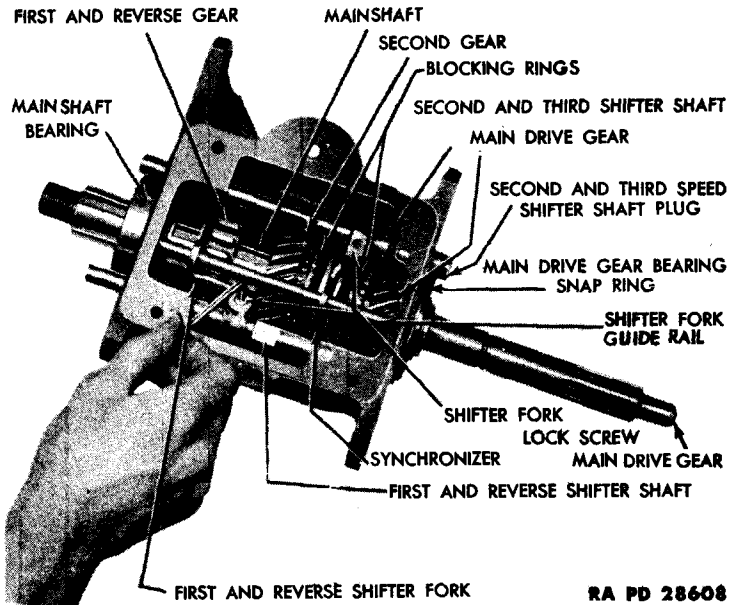
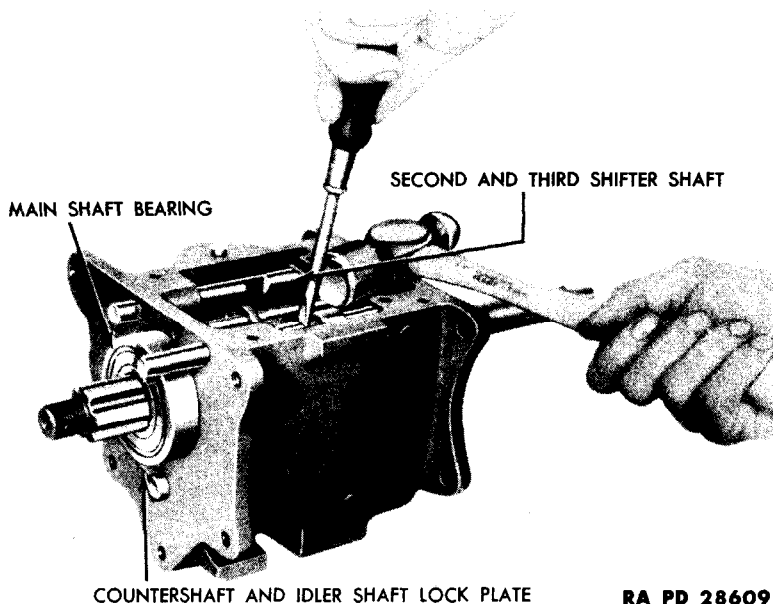

Figure 8 – Removing Shifter Fork Lock Screws
Figure 9 — Removing Shifter Shafts
c. **Remove Shifter Fork Guide Rail** (fig. 8). Push the shifter fork guide rail out of the transmission.
d. **Remove the Low and Reverse, and the Second and High Shifter Forks.** Remove the shifter fork lock screw from each fork (fig. 8). Tap the shifter shafts part way out of the transmission (fig. 9), being careful not to lose the interlocking ball in each shaft. Hold the shifter fork and pull the shafts from the transmission.
f. Install First and Reverse Shifter Fork (fig. 8). Hold the first and reverse shifter fork in position on the first and reverse gear, and slide the low and reverse shifter shaft (short shaft) into the case about half way. Drop an interlock spring and ball in the pocket. Press down on the ball and push the shifter shaft all the way in the case. Line up the groove of the shaft with the shifter fork and install the lock screw.
g. Install Second and Third Shifter Fork (fig. 8). Repeat the same procedure as used in installing the low and reverse shifter fork, and then push the guide rail into the case and through both shifter forks.